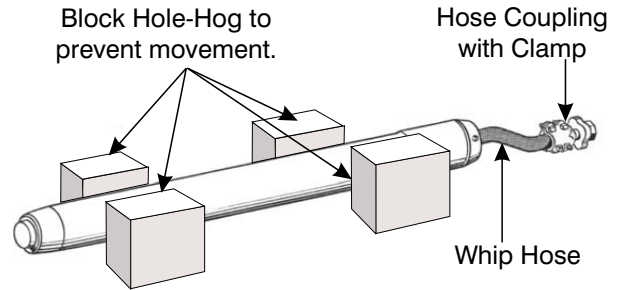

Figure 11-12. Secure Hole-Hog in Place.
1. Place the Hole-Hog on the work area tarp. Block it so the Hole-Hog will not accidentally roll off the work surface. Leave the Whip Hose (14) and Hose Coupling (16) easily accessible, as shown in Figure 11-12.